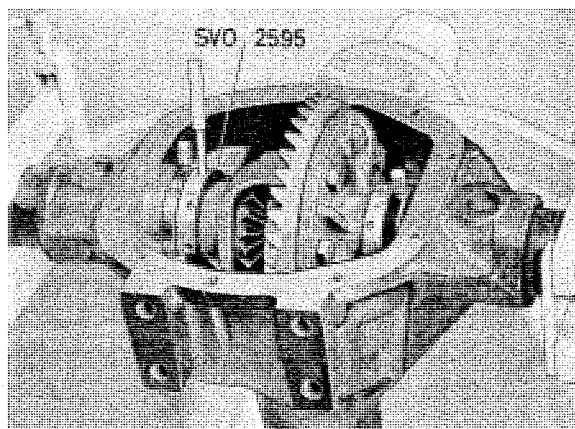

Fig. 4-159. Adjustment of rings for differential
1. Lubricate the inside of the adjusting rings 2595 and put them on the differential carrier. The ring with the black-oxidized adjusting ring should be placed on the crown wheel side. Also lubricate the bearing location in the carrier. Place the differential carrier and the adjusting rings in the final drive housing, see Fig. 4-159. Use the dial indicator and adjust in the rings so that the correct tooth flank clearance 0.12–0.18 mm (0.005–0.008") is obtained. Tighten the lock screws in the adjusting rings.